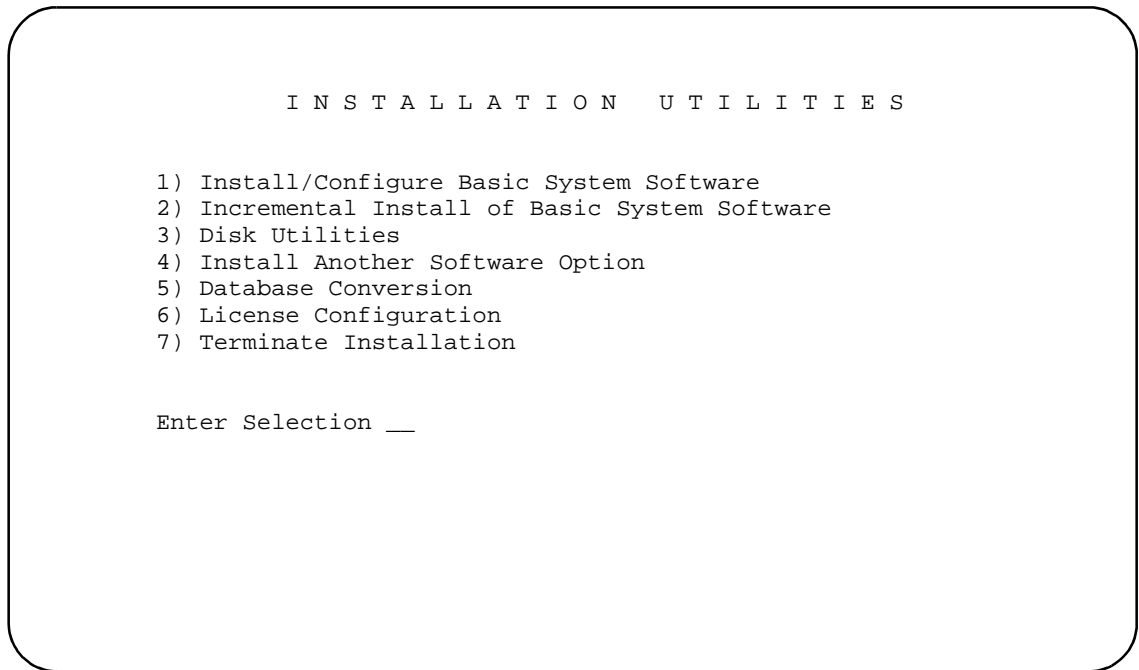

Figure 3.1: Installation Utilities Menu
2. Power up the A-side. After the system performs diagnostic tests, the Installation Utilities menu appears (Figure 3.1).
Remove the current diskette from the drive, insert Disk 4 and press **Return**. When the installation is complete, the Installation Utilities menu appears (Figure 3.1).
3. After the system performs diagnostic tests, the Installation Utilities menu appears (Figure 3.1).
1. Access the Installation Utilities menu (Figure 3.1).